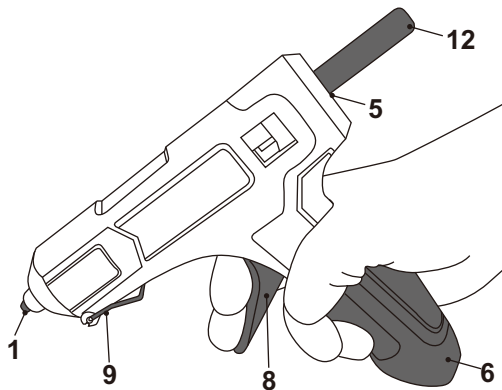

Fig. 8
2. Slide a glue stick (12) in the feed channel (5) until it stops.
3. To turn on the hot glue gun, press and hold the on/off switch (4) for 3 second until the power indicator (3) turns green and the temperature indicator (2) turns red.
4. Let the hot glue gun preheat before using the trigger (8). When the hot glue gun has reached its working temperature, the temperature indicator (2) turns green.
5. Close the stand holder (9).
6. Always hold the main grip (6) and point the nozzle (1) of the glue gun on the surface to be processed and apply the glue by keeping the trigger (8) pressed evenly. Repeat this step as needed. If it becomes hard to squeeze more glue out, just wait 15 seconds for the new section of glue to melt in the feeding channel (5) (Fig. 8).
7. If you need to put the glue gun down, always ensure you unfold the stand holder (9) and place it on a level heat proof surface.